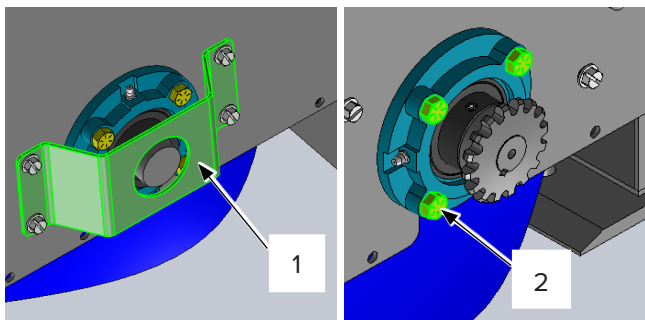

Figure 6
6. Remove the bearing guard [Figure 6, Item 1] on the right side, and remove the hardware from both bearings [Item 2].
7. Remove the bearing guard on the right side [“Figure 6” on page 21, Item 1].
8. Remove the bearing hardware [“Figure 6” on page 21, Item 2].
7. Remove the bearing guard on the right side ["Figure 6" on page 21, Item 1].
8. Remove the bearing hardware ["Figure 6" on page 21, Item 2].